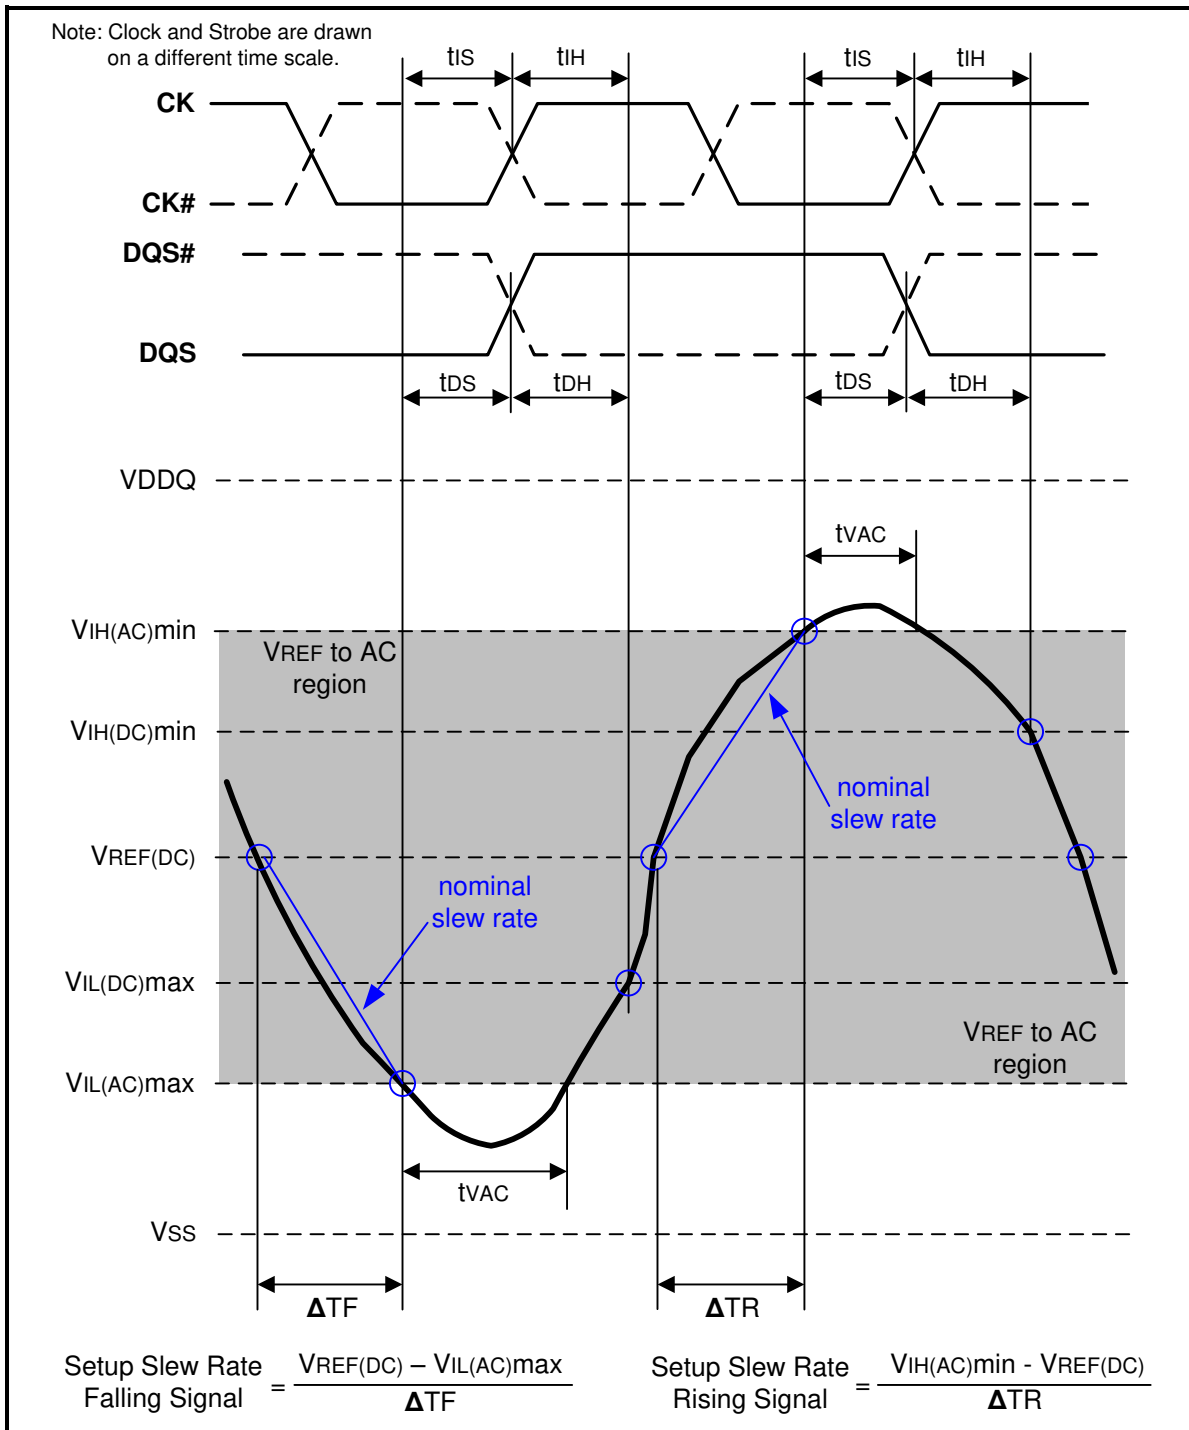

Figure 107 – Illustration of nominal slew rate and tvAC for setup time tDS (for DQ with respect to strobe) and tIS (for ADD/CMD with respect to clock)
Setup (t_{IS}) nominal slew rate for a rising signal is defined as the slew rate between the last crossing of $V_{REF(DC)}$ and the first crossing of $V_{IH(AC)min}$. Setup (t_{IS}) nominal slew rate for a falling signal is defined as the slew rate between the last crossing of $V_{REF(DC)}$ and the first crossing of $V_{IL(AC)max}$. If the actual signal is always earlier than the nominal slew rate line between shaded 'VREF(DC) to AC region', use nominal slew rate for derating value (see Figure 107). If the actual signal is later than the nominal slew rate line anywhere between shaded 'VREF(DC) to AC region', the slew rate of a tangent line to the actual signal from the AC level to DC level is used for derating value (see Figure 109).
Setup (tDS) nominal slew rate for a rising signal is defined as the slew rate between the last crossing of VREF(DC) and the first crossing of VIH(AC)min. Setup (tDS) nominal slew rate for a falling signal is defined as the slew rate between the last crossing of VREF(DC) and the first crossing of VIL(AC)max (see Figure 107). If the actual signal is always earlier than the nominal slew rate line between shaded 'VREF(DC) to AC region', use nominal slew rate for derating value. If the actual signal is later than the nominal slew rate line anywhere between shaded 'VREF(DC) to AC region', the slew rate of a tangent line to the actual signal from the AC level to DC level is used for derating value (see Figure 109).